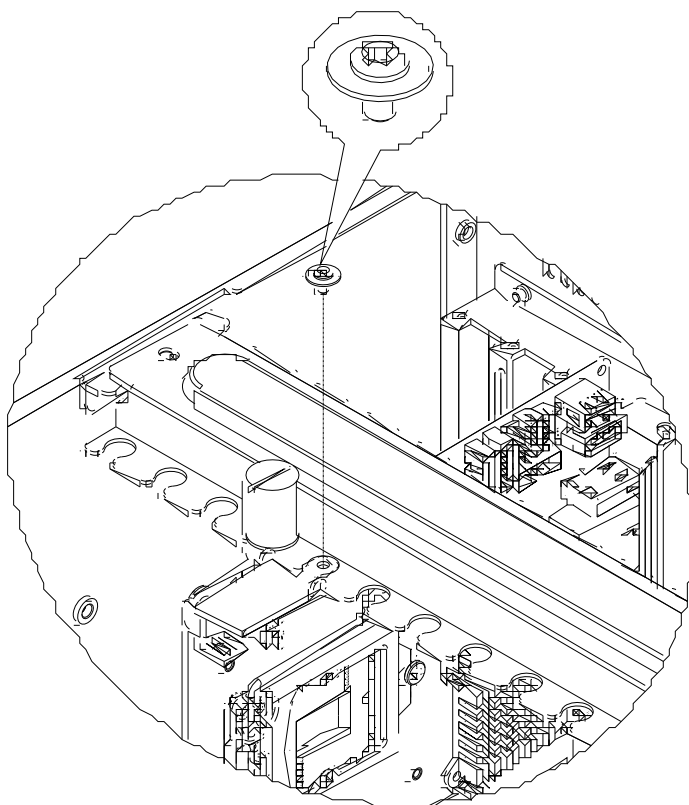

Figure 2.8 Fastening the CPU card and bracket
4. Find the other round head screw in the accessory box to fix the other end of CPU bracket onto hold-down clamp (see Figure 2.8 Fastening the CPU card and bracket).
4. 另外再取出附件盒内的另一颗特殊大圆头螺丝，固定住 CPU 卡支架的另一端在压杆上（如图 2.8 固定 CPU 卡与支架）。